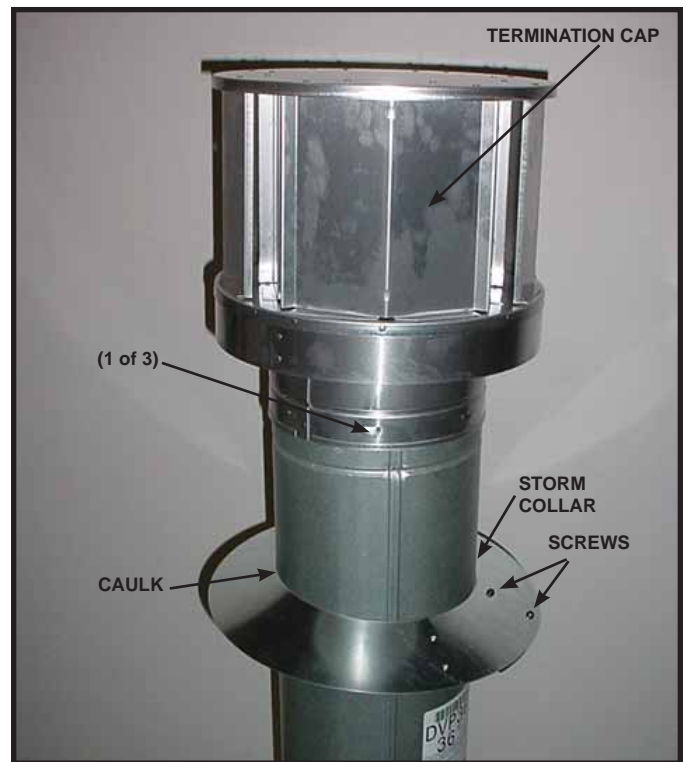

Figure 8.14
- Caulk the perimeter of the flashing where it contacts the roof surface. See Figure 8.14.
Secure with three screws into the outer flue. Secure the cap by driving the three self-tapping screws (supplied) through the pilot holes in the outer collar of the cap into the outer flue of the pipe (see Figure 8.14).
Caulk around the top of the storm collar (see Figure 8.14).